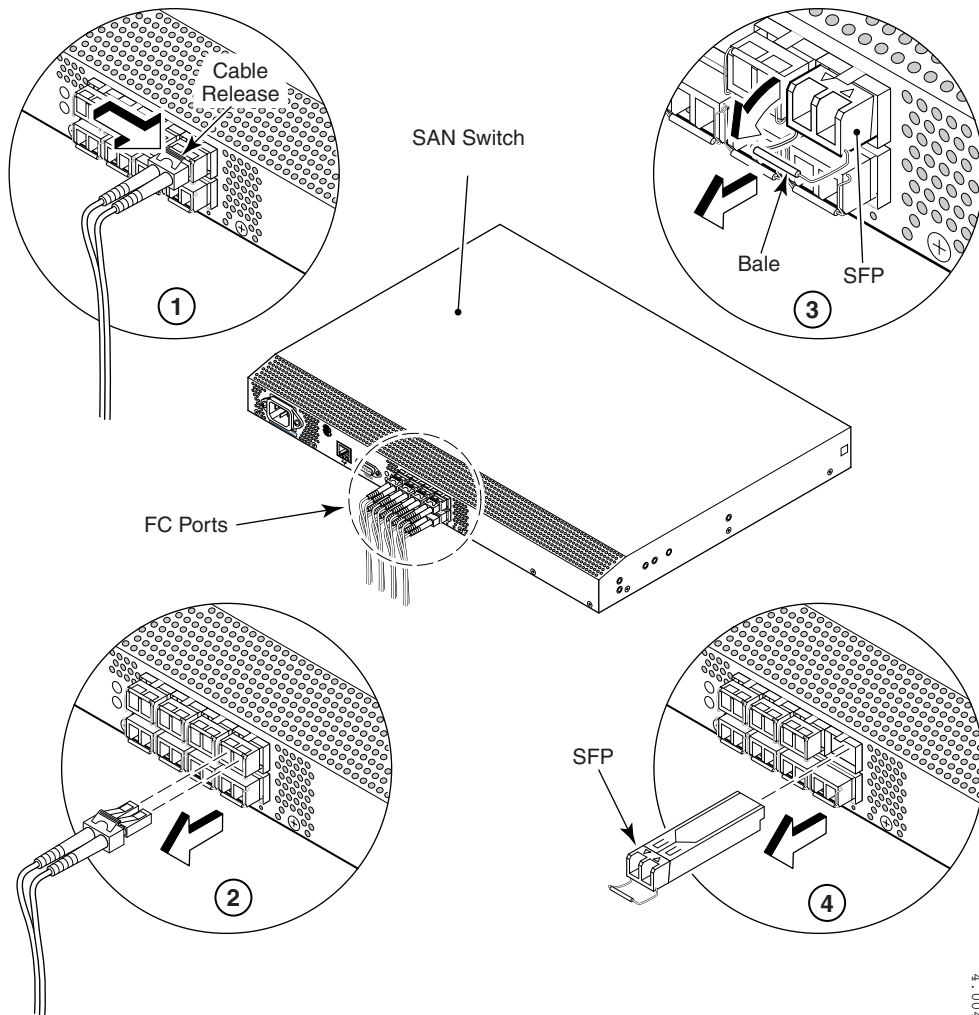

Figure 19: Installing or removing an SFP
1. Making sure that the bale (wire handle) is in the unlocked position, and place the SFP in the correctly oriented position on the port, as shown in Figure 19 on page 71.
1. Press and hold the cable release, as shown in Figure 19 on page 71.
Figure 19 shows the SFP installation and removal steps.